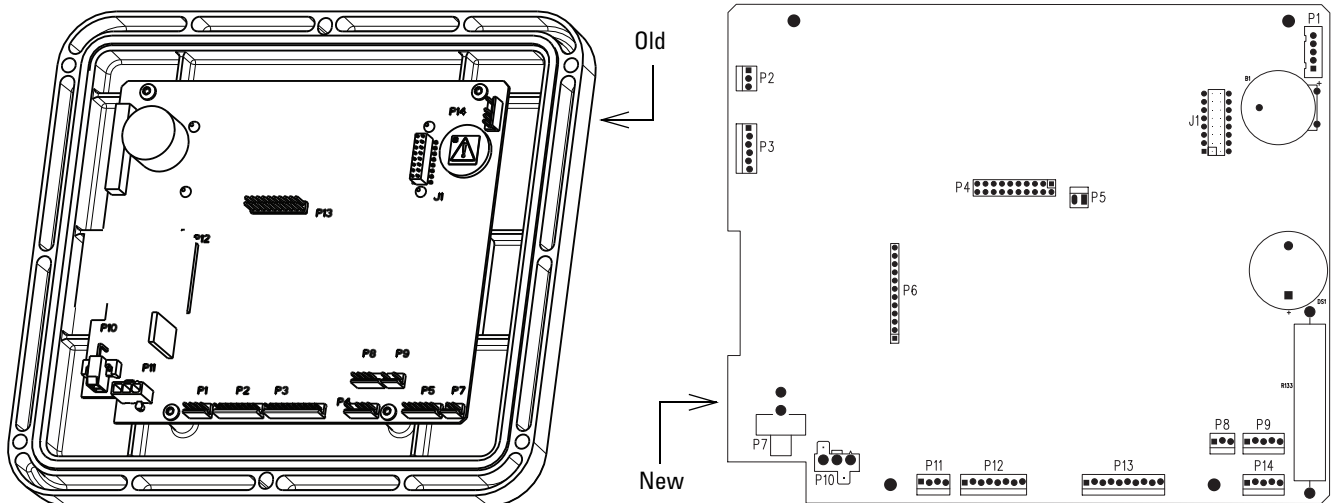

Figure 2: Control panel wiring connectors
4. Referring to Figure 2 on the following page, label the wiring harnesses with the circuit board locations for ease of reconnection to the new panel.